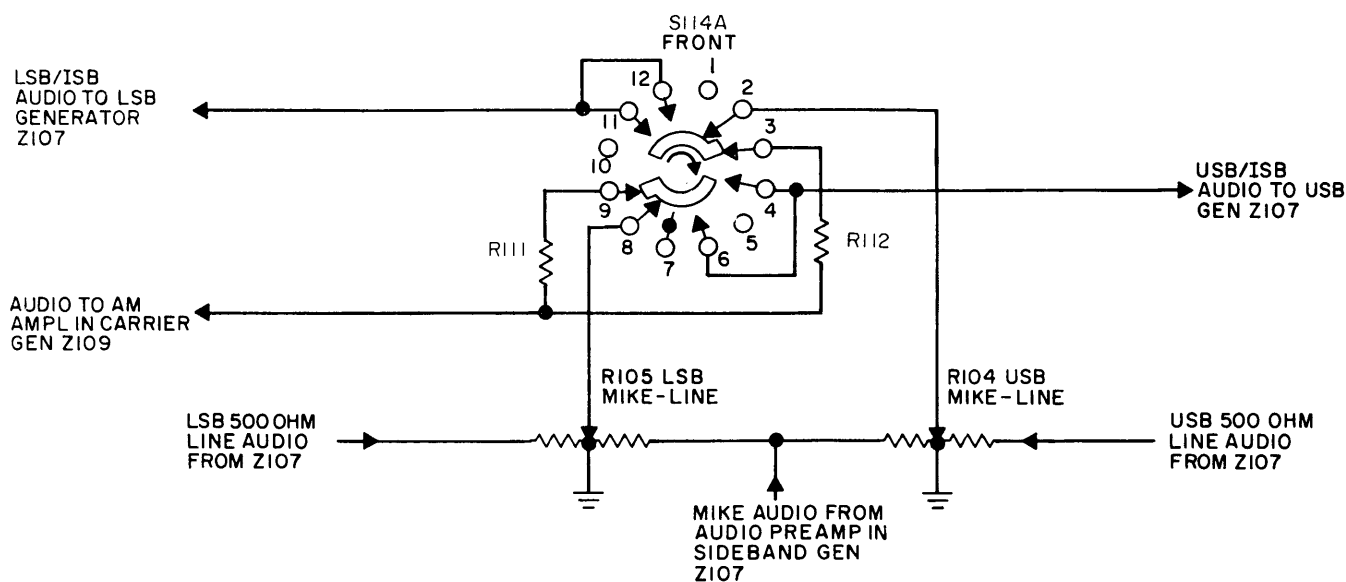

Figure 4-3. Audio Mode Switching, Simplified Schematic Diagram
h. MODE SWITCHING. (See figures 4-3, 4-4 and 7-1.) Mode switching for the MMX()-2 is accomplished by MODE switch S114, which selects the desired mode of operation (AM, USB, LSB, ISB, CW, FSK and FAX) by routing audio, subcarrier and certain enables to the proper circuits of the Exciter. Mode switching can be divided into areas of audio, present in the AM, USB, LSB and ISB modes, and the remaining modes of CW, FSK and FAX operation.
(1) In the audio modes (figure 4-3), microphone or 500-ohm line audio inputs from the upper and/or lower sideband generators are developed across half of the respective MIKE/LINE control and sent to MODE switch S114A (front). Consider upper sideband (USB) audio. Microphone audio from the audio preamplifier circuit is developed across the MIKE half of USB MIKE/LINE control R104 and is applied to contact 2 of S114A; when the 500-ohm audio input line is used, the USB generator (figure 7-3) supplies a 500-ohm line audio output which is developed across the LINE half of control R104. In either case, USB MIKE/LINE control R104 sets the amplitude of the USB audio signal. With the MODE switch in the AM position, the USB audio is coupled through contact 3 of S114C and R112 to the AM amplifier in carrier generator Z109; in the USB position, the audio is coupled through contact 4 of S114C to the upper sideband generator audio input; in the LSB position, LSB audio from LSB MIKE/LINE control R105 is coupled through contacts 8/11 of S114C to the lower sideband generator audio input; and in the ISB position of S114C, both USB and LSB audio is sent simultaneously to the respective sideband generator audio input (if audio intelligence is desired on both).